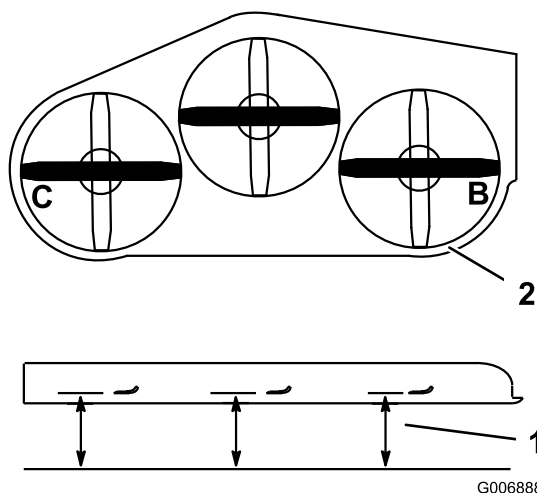

Figure 82
1. Position the **right** blade side-to-side (Figure 82).
2. Measure the right blade at the **B** location, from a level surface to the cutting edge of the blade tip (Figure 82).
4. Position the left blade side-to-side (Figure 82).
5. Measure the left blade at the **C** location (Figure 82), from a level surface to the cutting edge of the blade tip.